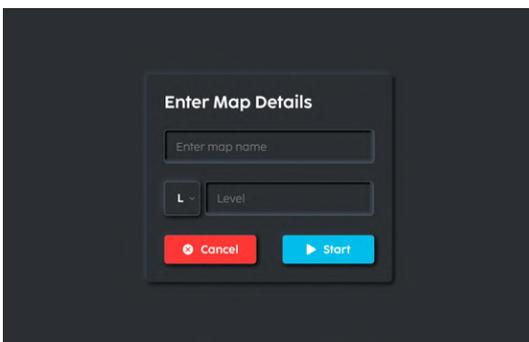

FIGURE 4-3
5. Proceed to 'Start' mapping (**Fig. 4-3**).